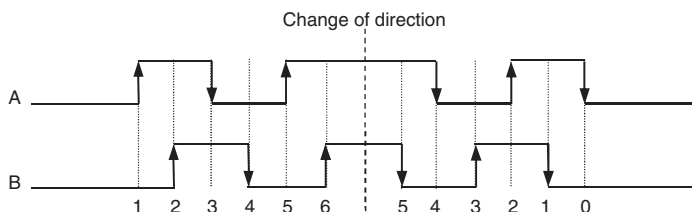

Fig. 1.7.
3) Series of pulses A/B (input waveform is shown in figure 1.7): In this case, one period of the reference signal A/B turns the motor shaft by one period of the feedback encoder signal.